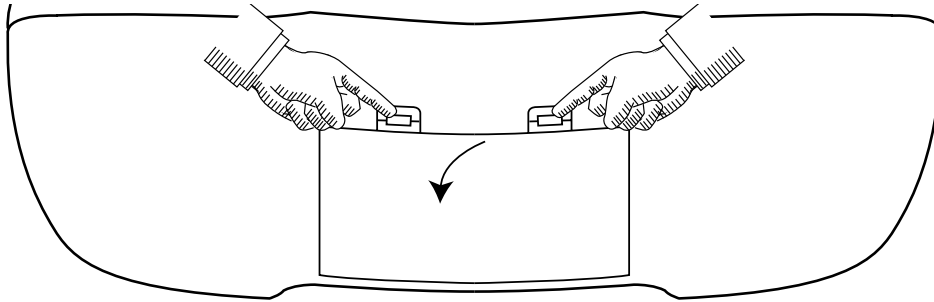

Figure 1
- Remove the battery compartment door by pressing downward on the two tabs as shown in figure 1 below.